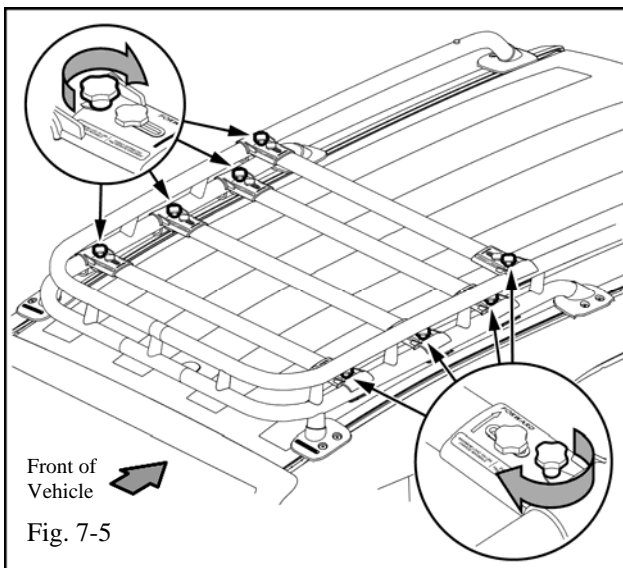

Fig. 7-5
- ⚠ (e) Ensure crossbars are parallel to vehicle then securely tighten all clamp knobs. (Fig 7-5)